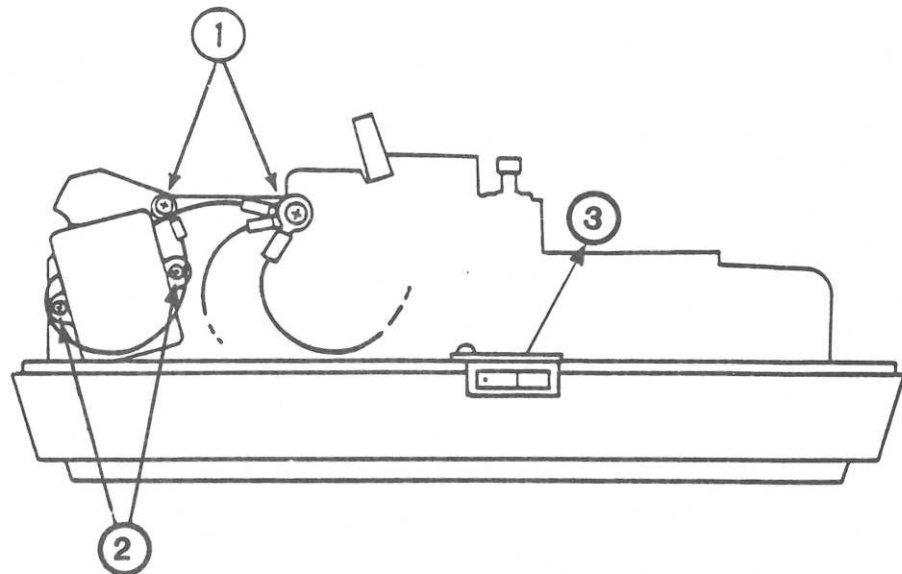

FIGURE 28
4. Remove the screw and washers holding ground straps to the side frame. (See Figure 28, #1.)
5. Remove the two screws from the noise filter. (See Figure 28, #2.)
7. Remove screw from plate over power switch. (See Figure 28, #3.)